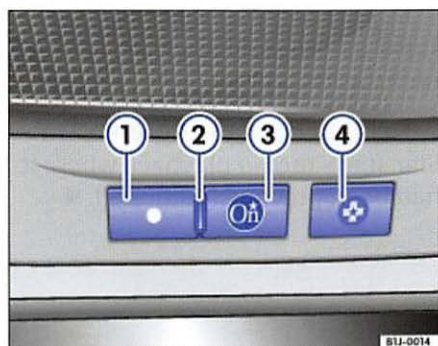

Fig. 7 OnStar services button
- Press the blue **OnStar** button ⇒ fig. 7 ③. The system beeps several times, followed by a longer beep.